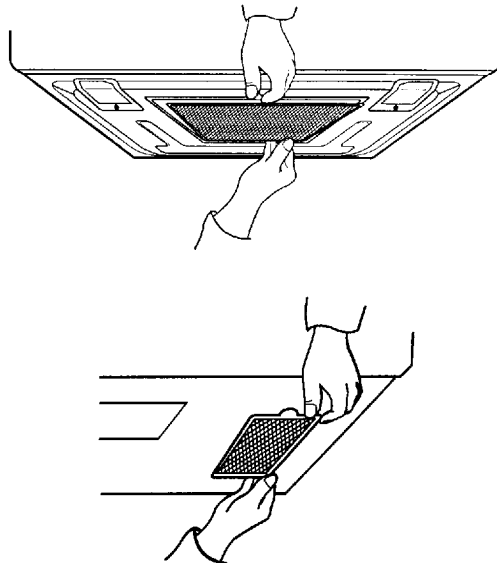

Figure 33
8. To install the grease filter: Slide it into the slide slot, then push up and toward oven center to lock. See Figure 33.